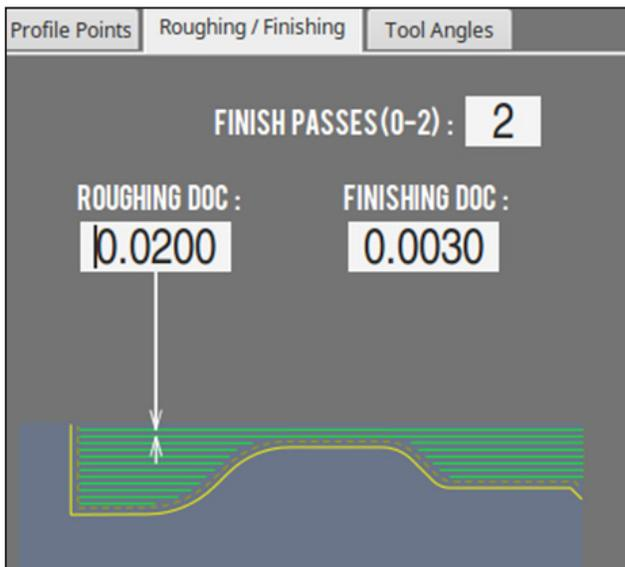

Figure 5.33
- Click the *Roughing DOC* DRO field to display a roughing graphic (see **Figure 5.33**).